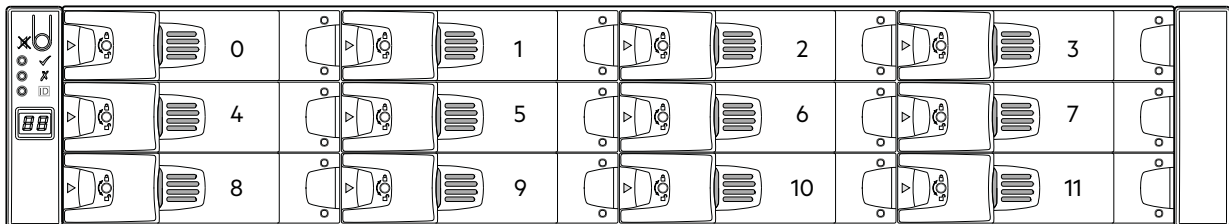
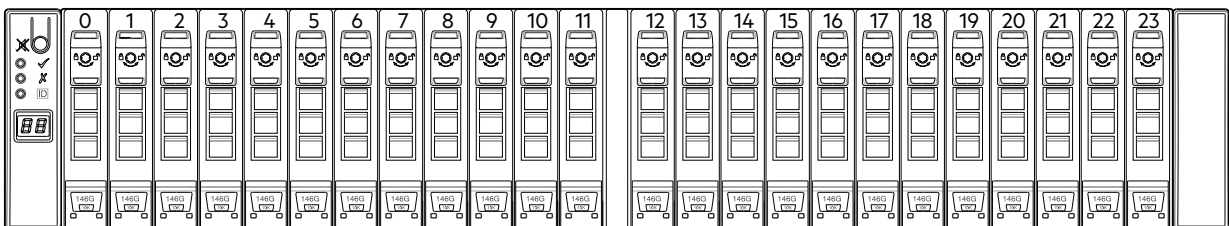

Figure 7 2U12 enclosure system – front panel components
Figure 8 2U24 enclosure system – front panel components
- There are either 12 or 24 drive slots at the front of the enclosure, in horizontal (12) or vertical (24) orientation, as defined by the enclosure variant. See also Figure 7 and Figure 8 \(page 24\). Each drive slot holds a plug-in drive carrier module that can hold these drive types, dependent upon the enclosure type: